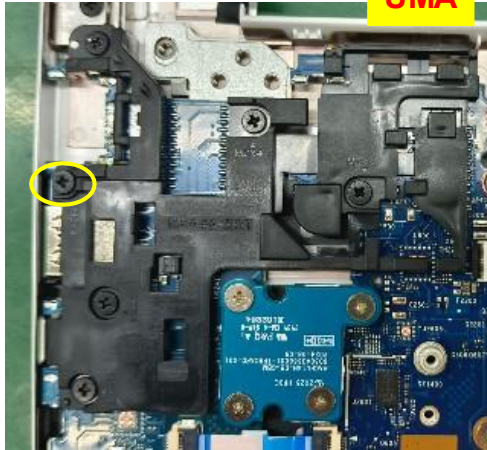

Figure 1
1. Remove Frame R* 1 (Figure 1/Figure 2)